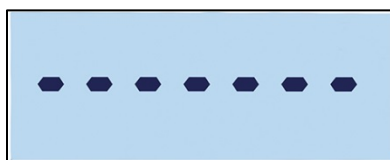

Figure 2-18: Detecting Stable Weight
3. Confirm the reference number by pressing . "-----" will display (Figure 2-18) while the scale detects stable weight. Make sure that the number of samples on the scale matches the selected reference size. If stable weight is detected before the process times out, the counting application starts; otherwise the screen remains in the previous weighing state.